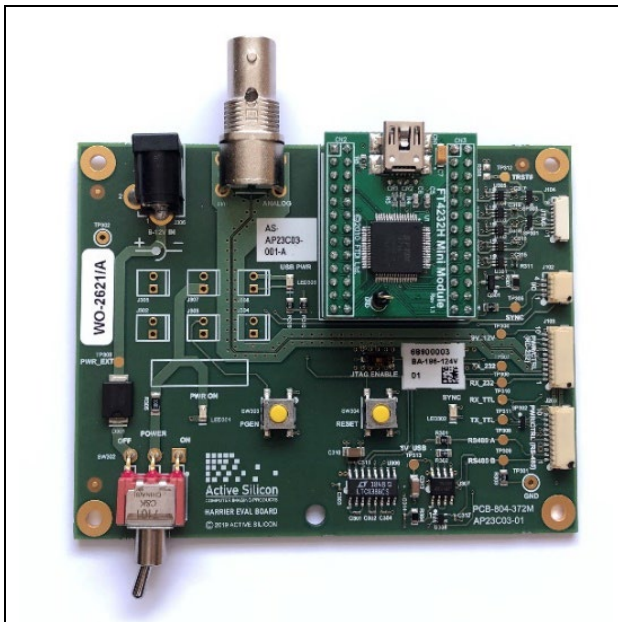

Figure 2. Harrier Evaluation Board
- Harrier Evaluation Board (Figure 2)